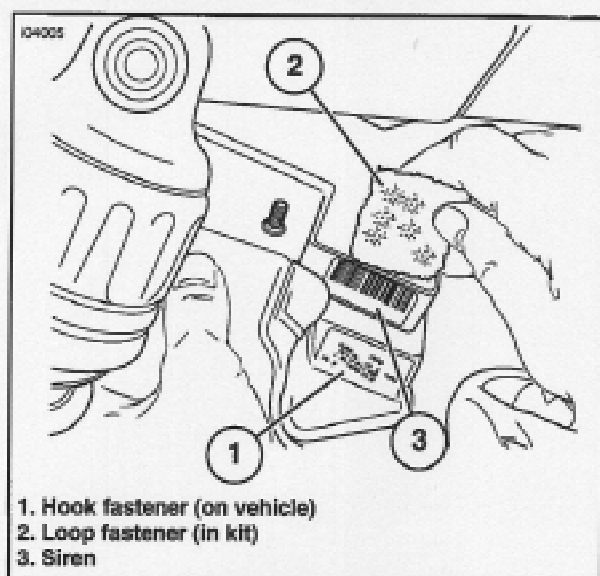

Figure 5. Secure Siren Box (VRSC Models)
7. See Figure 5. Obtain the loop fastener (2) from the kit, and cut off a piece about 1-1/2 in (38 mm) square. Peel off the paper backing and attach to the face of the siren (3) opposite the sounder disc, avoiding the battery door. Secure the siren to the hook fastener (1) already attached to the right side of the mud flap.